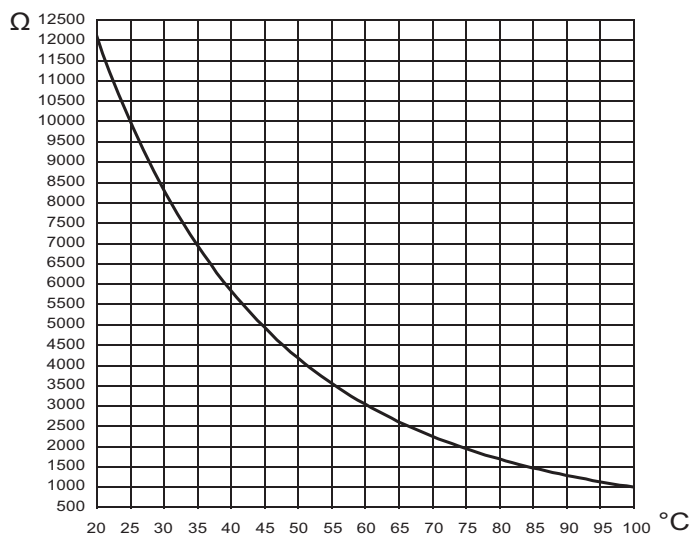

Figure 19.4
- 2 Measure the Flue temperature probe NTC and Safety thermal fuse electrical resistance at the ambient temperature and check it according to the graph in (Figure 19.4).